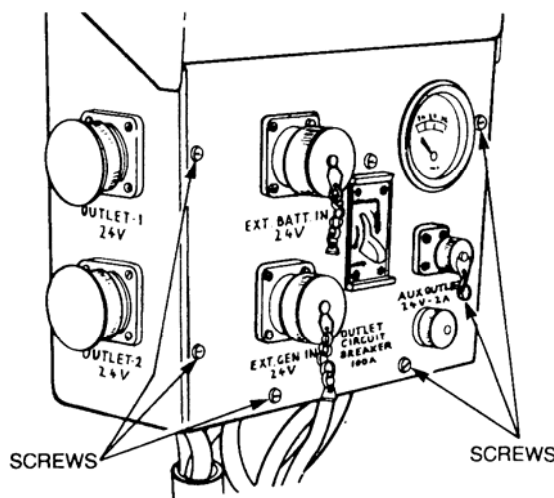

Figure 6 Removal of the PDB
- h. Remove the six screws securing the front panel and hinged top section of the PDB (Figure 6). Withdraw the front panel from the PDB to allow the power terminals to be exposed. Tag and disconnect all cables then remove all cables from the bottom of the PDB.